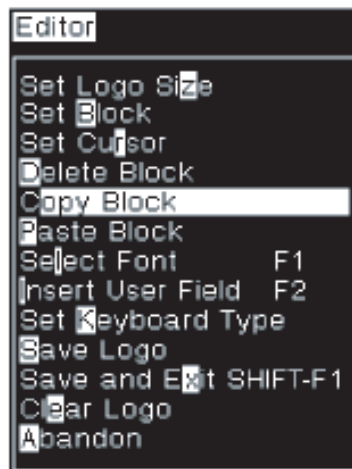

Figure 5-31: Copy Block Option
- 5 Select the *Copy Block* option using the  arrow key, and press Enter (Figure 5-31).